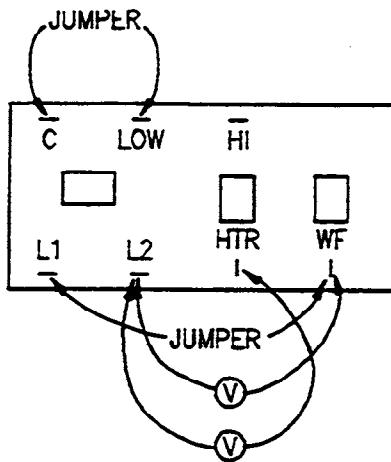

Figure 5-20. Water Level Control Unit
- Refer to Figure 5-20 and remove LOW connection (white/orange wire) at Control Board.
6. Refer to Figure 5-20 and if the unit does not steam, jumper Control Board terminal LOW to ground.
- Remove HI connection (white/yellow wire) at Control Board. See Figure 5-20.
6. Refer to Figure 5-20 and if the generator does not fill, replace Control Board terminal HI wire.
- Refer to Figure 5-20 and jumper Control Board terminal HI to ground.